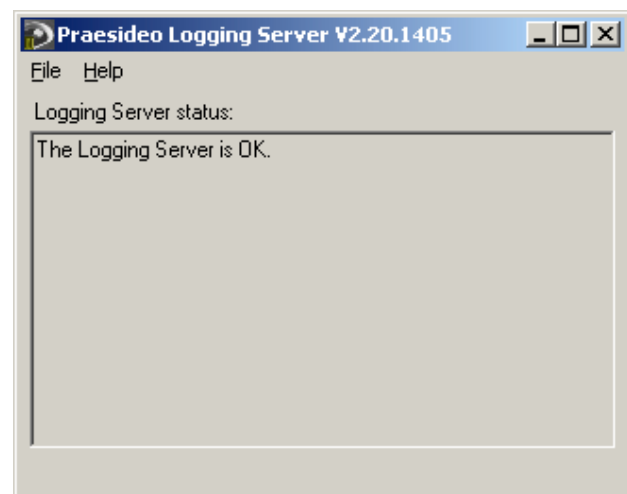

figure 49.4: Main window
- 1 Double click on the *Logging Server* icon (see figure 49.2). A screen similar to the one in figure 49.4 appears.
Use the menus in the menu bar of the main window (see figure 49.4) to: